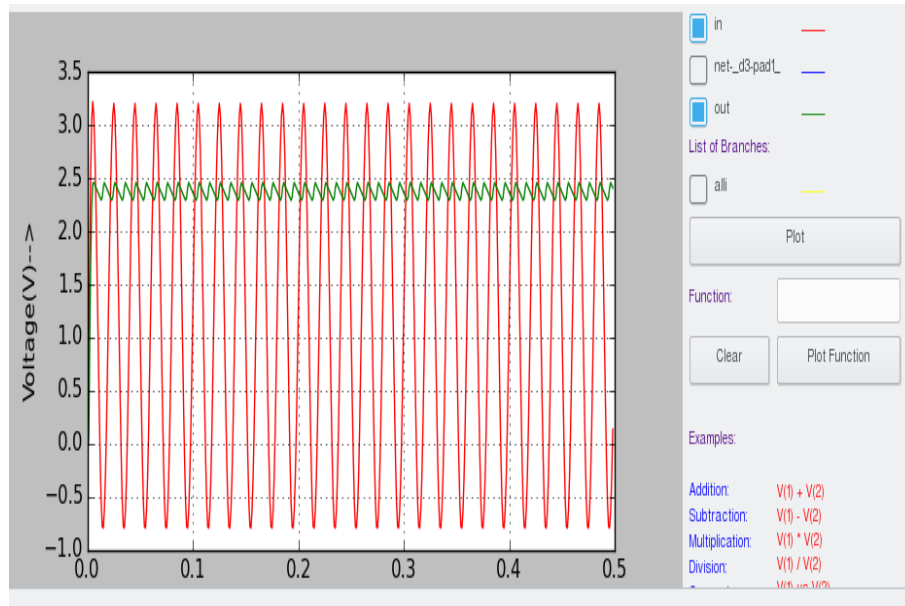

Figure 7.7: The transient response of the bridge rectifier with capacitor filter on python plotting window
**Python plotting:** This provides a graphical interface for plotting. We need to plot the value of voltage across the ‘SINE’ source as well as the load with respect to time. We have already labeled these nodes as `in` and `out` respectively. The nodes will be listed on the GUI. Choose ‘in’ and ‘out’ and click on ‘plot’ button. See Figure 7.7.